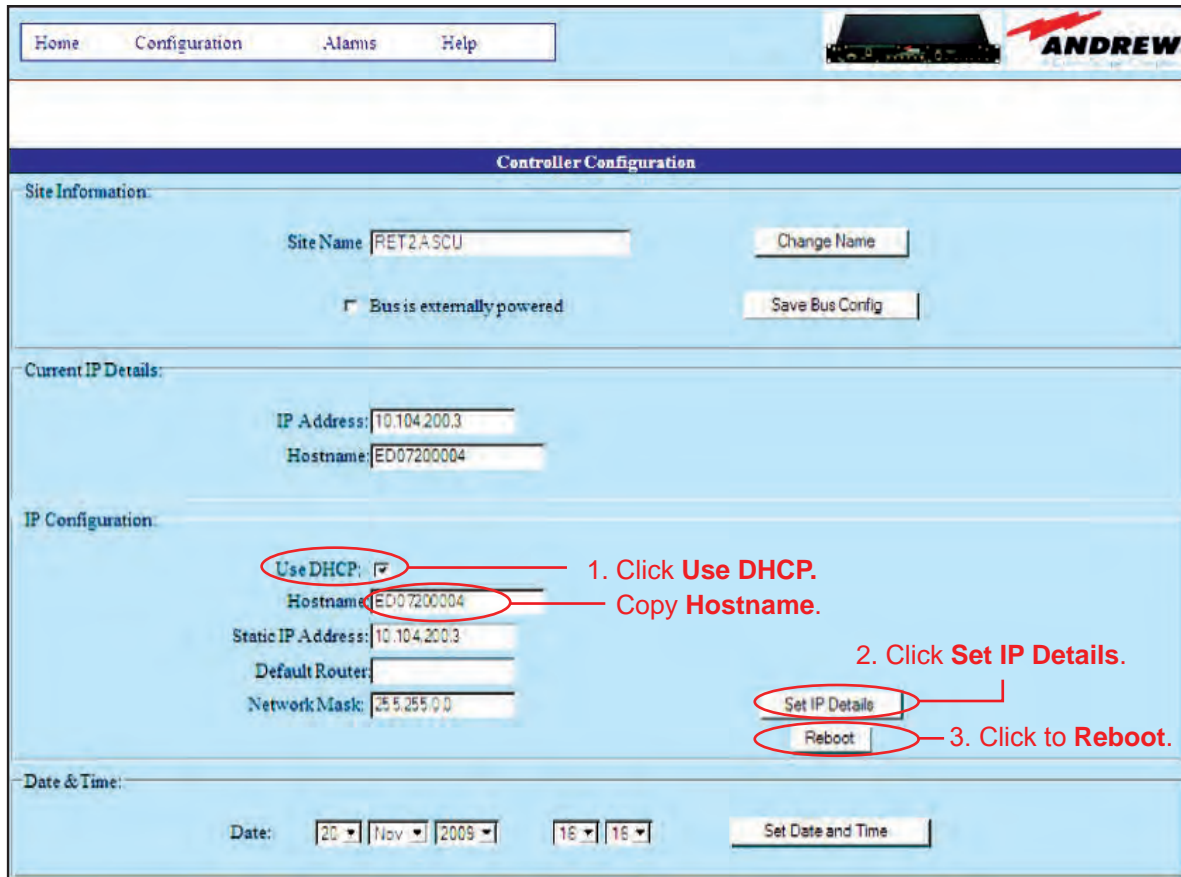

Figure 7-4. Configuring Controller's DHCP For Access Over a Network.
Figure 7-4 shows a controller Config window set to DHCP.
3. Click on **Reboot** (Figure 7-4). The connection between the local computer and the controller will be lost upon reboot.